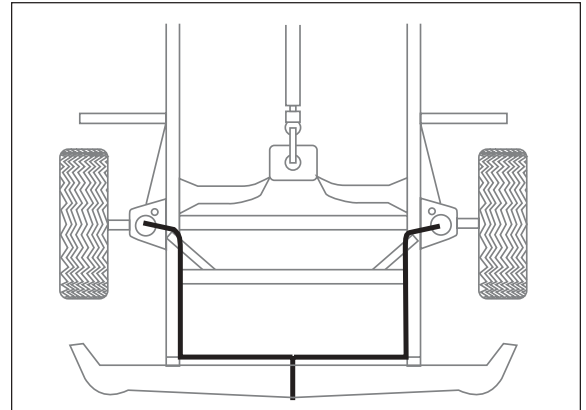

Figure 9
- h. Push the remaining air line over the last fitting on tee and route along frame to desired inflation valve location (Figure 9). Attach with plastic straps or wire.